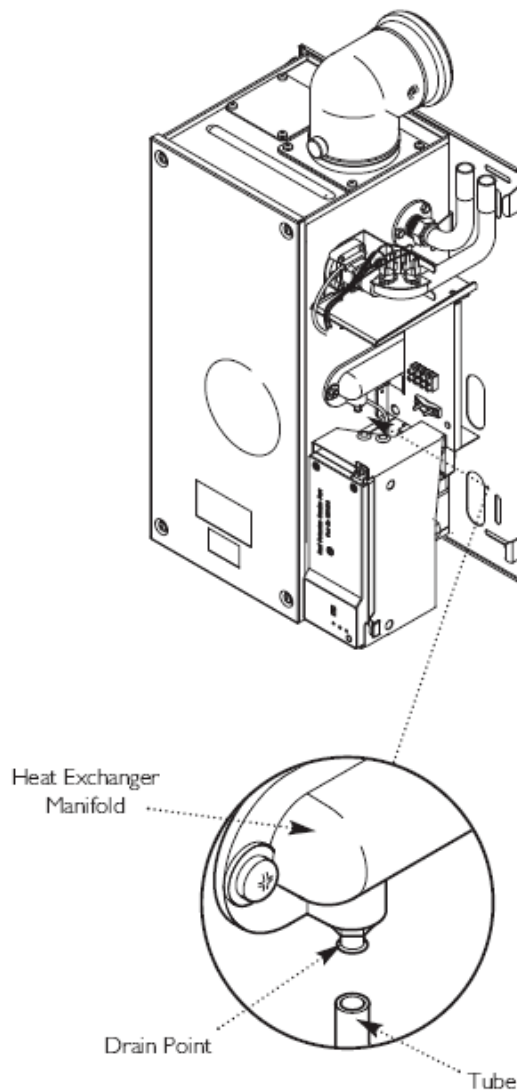

Fig. 45
3. Isolate the water circuit and drain the system as necessary. A drain point is located on the heat exchanger manifold at the right hand side of the boiler (Fig. 45) to enable the heat exchanger to be drained.
4. Place a tube on the drain point to drain water away from electrics. Turn anticlockwise to open (Fig. 45).